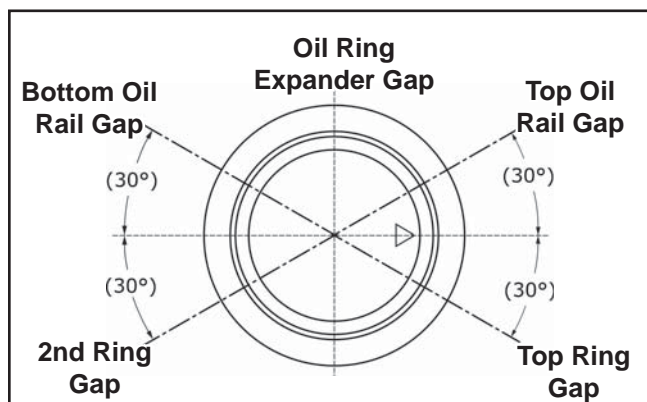

Figure 10-17. Piston Ring Orientation.
1. **Oil Control Ring (Bottom Groove):** Install the expander and then the rails. Make sure the ends of the expander are not overlapped. See Figure 10-17.
2. **Middle Compression Ring (Center Groove):** Install the center ring using a piston ring expander tool. Make sure the identification mark is up or the colored dye stripe (if contained) is to the left of the end gap. See Figure 10-17.
3. **Top Compression Ring (Top Groove):** Install the top ring using a piston ring expander tool. Make sure the identification mark is up or the colored dye stripe (if contained) is to the left of the end gap. See Figure 10-17.